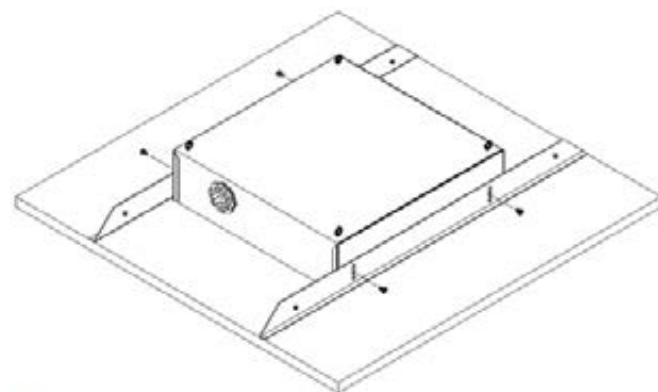

Figure 3 - Installation to ceiling tile.
Step 3 –Lay ceiling tile over the enclosure assembly such that the previously cut opening in the ceiling tile is equally spaced around the outside of the enclosure (ref. *Figure 3*). Place the ceiling tile bridges along each side of the enclosure and attach using a #8-32 screw. Prior to tightening, be sure to properly align the tile bridges so the ends of the tile bridges align with the outside edge of the ceiling tile. Once the tile bridges are properly aligned, press the shoulder of the tile bridge down firmly against the tile and then securely tighten the screws. This is to assure that there is minimal gap between the enclosure's flange and the ceiling tile once it is placed in the ceiling. The four (4) holes on the tile bridge will be used to secure the enclosure with grid wires.